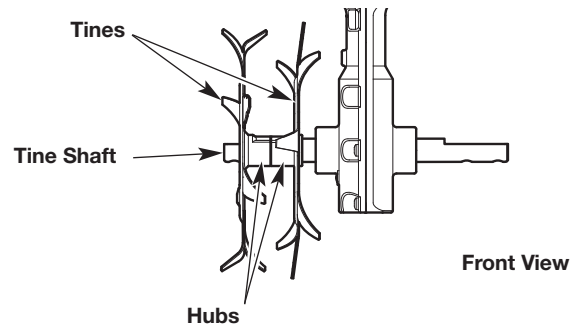
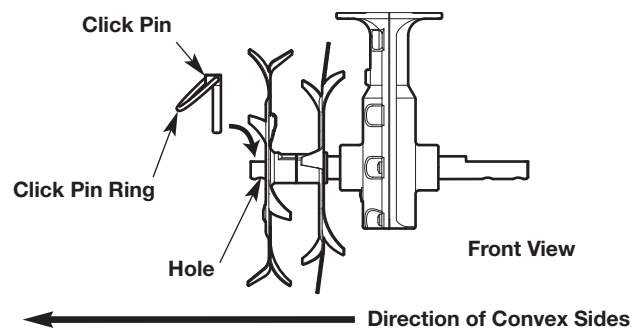

Fig. 9
Fig. 10
- Remove the click pin from the end of each tine shaft (Fig. 10). Slide the tines off of the tine shafts. (Fig. 9).
- Slide two new tines onto one of the tine shafts. The hubs must face toward each other (Fig. 9).
NOTE: Each tine has a convex side. Make sure that the convex sides are facing as shown (Fig. 10).
- Insert a click pin through the hole at the end of the tine shaft (Fig. 10). Push the click pin ring toward the tines until it clicks into place.